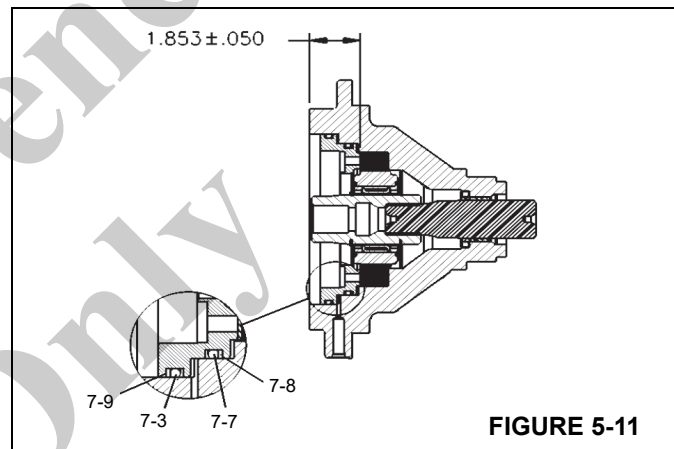

FIGURE 5-11
14. Coat the new o-rings and backup rings (Items 7-3, 7-7, 7-8, & 7-9) with light oil and install onto the piston (Item 10). See Figure 5-11 for proper o-ring/backup ring installation.